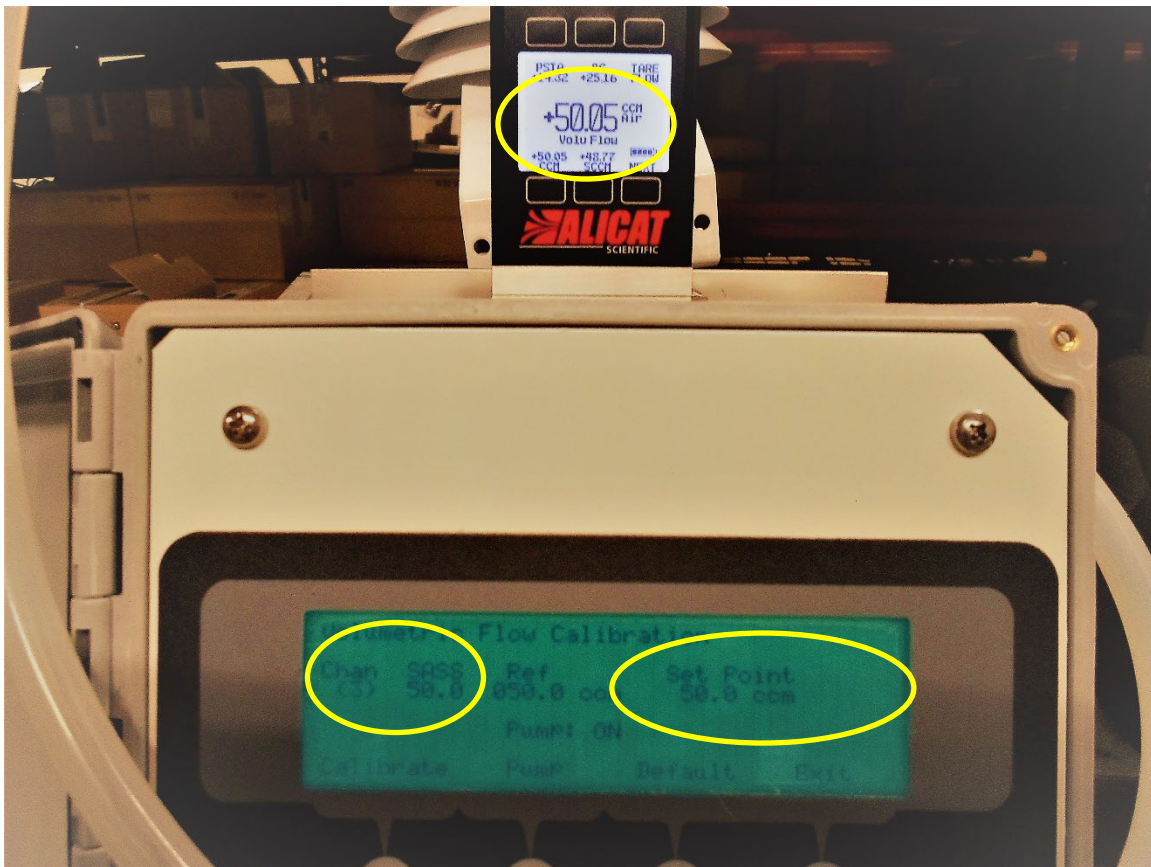

Figure 24: Matching the SASS point with Set Point and flowmeter.
- 3.4.6 Wait until the value displayed under the **SASS** column stabilizes to match the **Set Point** value. Note that this can take up to five minutes depending on the channel number (Figure 24).